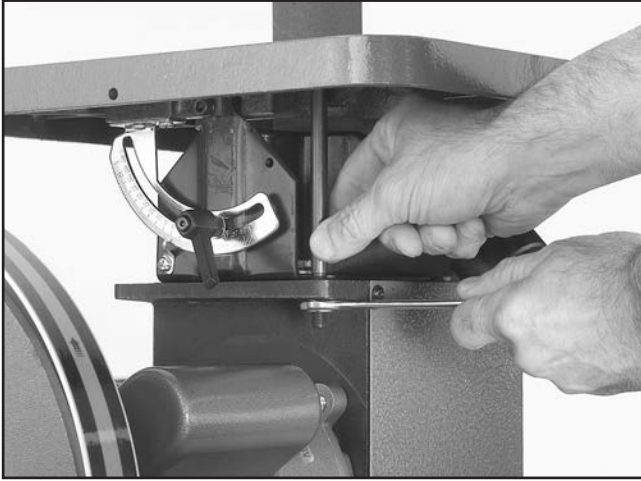

Figure 11. Squaring the sanding table.
5. If the table is not 90° from the spindle, adjust the table stop bolt to allow the table to move more as shown in **Figure 11**.